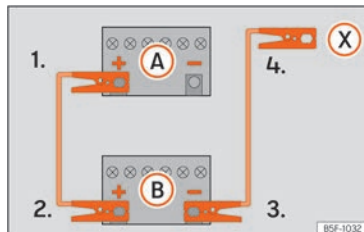

Fig. 42 Diagram of connections for vehicles without Start Stop system
2. Connect one end of the *red* jump lead to the positive (+) terminal of the vehicle with the flat battery (A) »» Fig. 42.
3. Connect the other end of the *red* jump lead to the positive terminal (+) in the vehicle providing assistance (B).
- 4a. *In vehicles without a Start-Stop system:* connect one end of the *black* jump lead to the negative terminal (-) of the vehicle providing the current (B) »» Fig. 42.